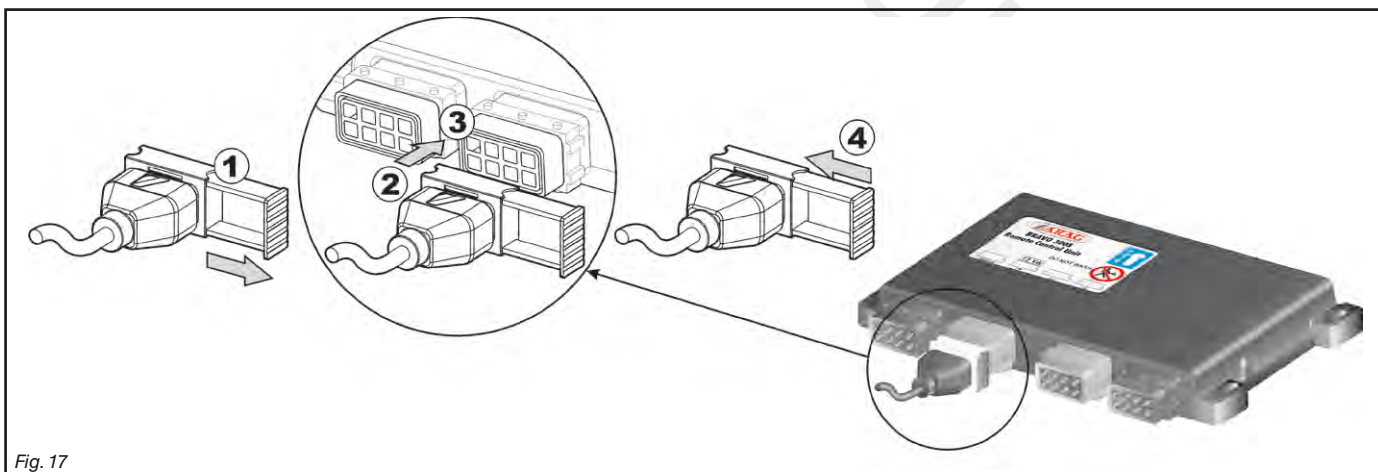

Fig. 17
- Open connector slide (1, Fig. 17).
- To position connector (2), insert it inside socket (3), then press: **during this operation, take care not to bend the electric contacts.**
- Close slide (4) until it locks in place.